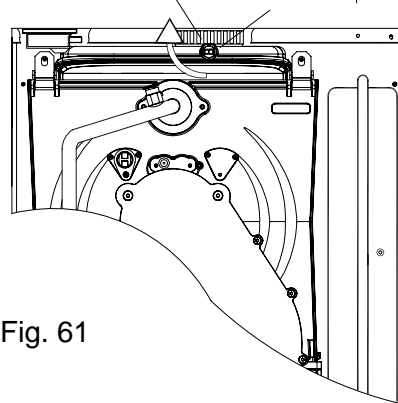

Fig. 61
8.27 TO REMOVE/REPLACE FLUE TEMPERATURE SENSOR (Fig. 61).